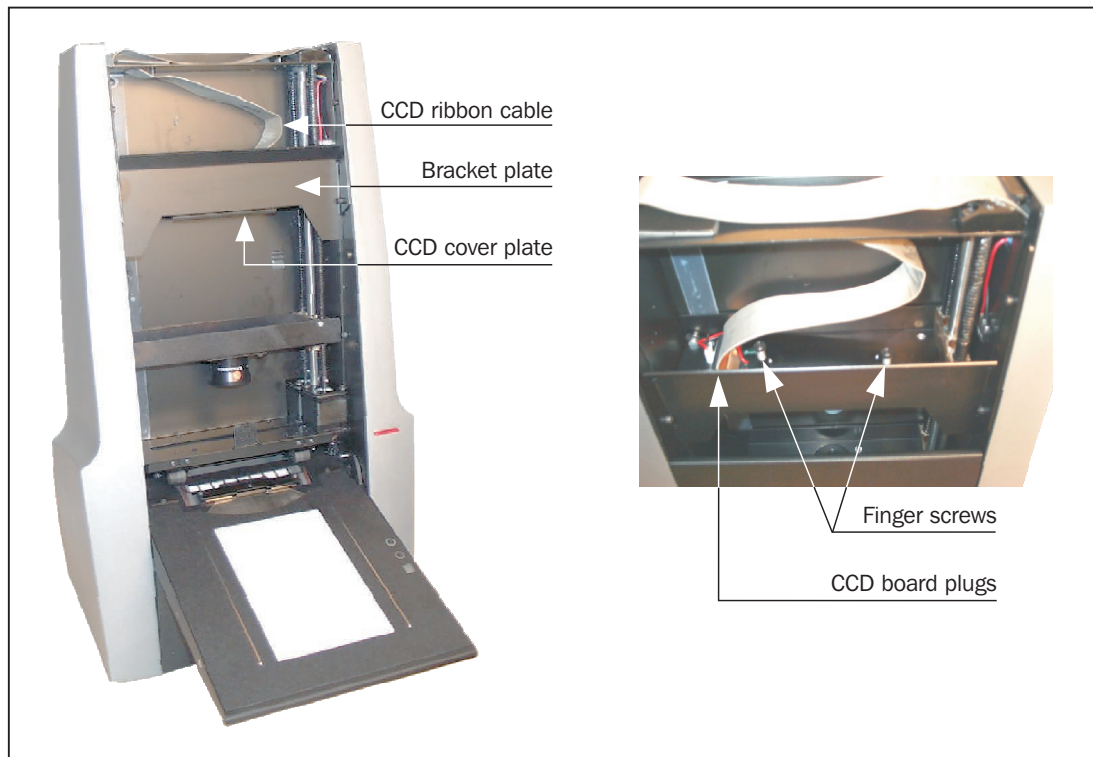

Figure 5.4: Replacing the CCD sensor board
20. Connect both plugs to the CCD board (see Figure 5.4).